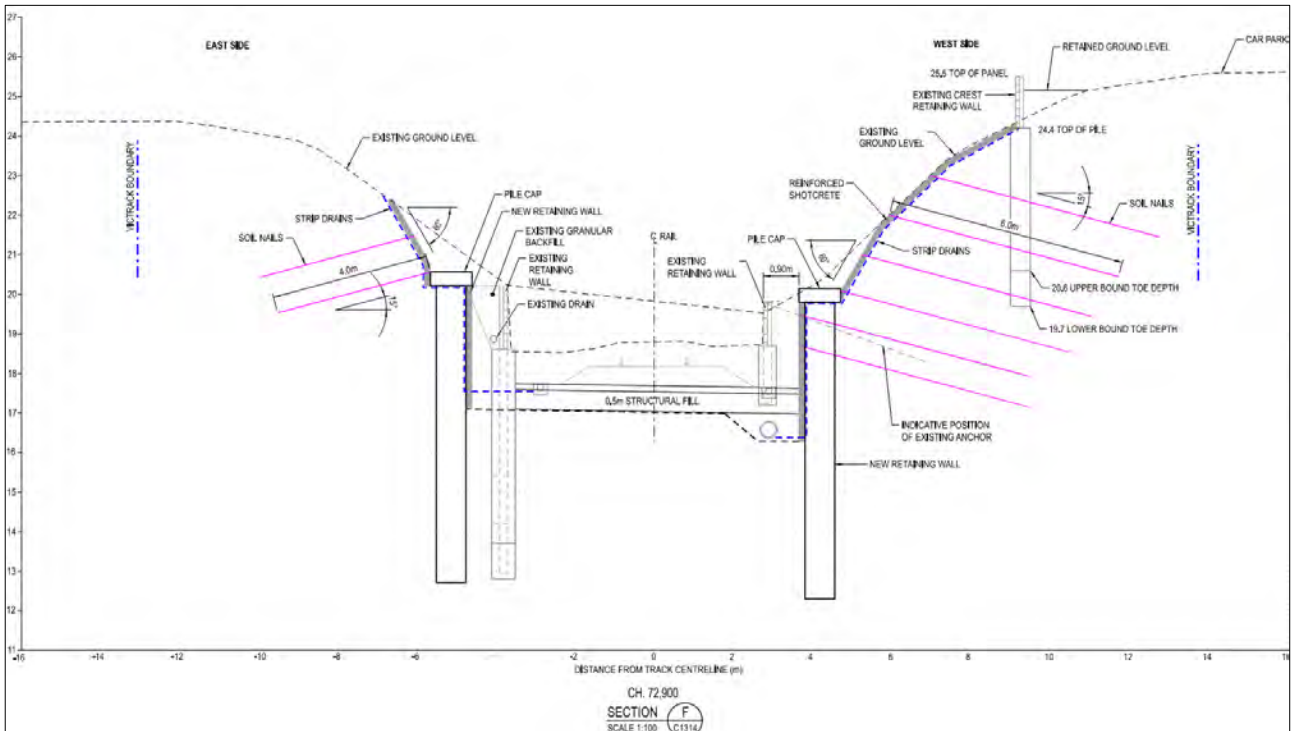

FIGURE 35: TYPICAL SECTION AT CH. 72.900 SHOWING RETAINING WORKS ON APPROCHES AT UP-END PORTAL (SOURCE: AURECON/VLINE)
- o Install soil nails and apply 150mm reinforced shotcrete across sloped area where cracked or damaged(see **Figure 35 and Figure 36**);